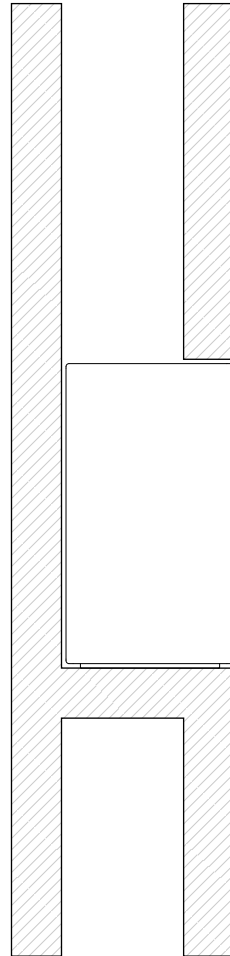

Figure 9: Acheron Designer Mounted in Baffle Wall with Open Ventilation Above Loudspeaker
- When installing the Acheron Designer in a baffle wall with no opening in the front of the wall for ventilation (see Figure 9), allow for plenty of ventilation above the loudspeaker within the baffle wall.